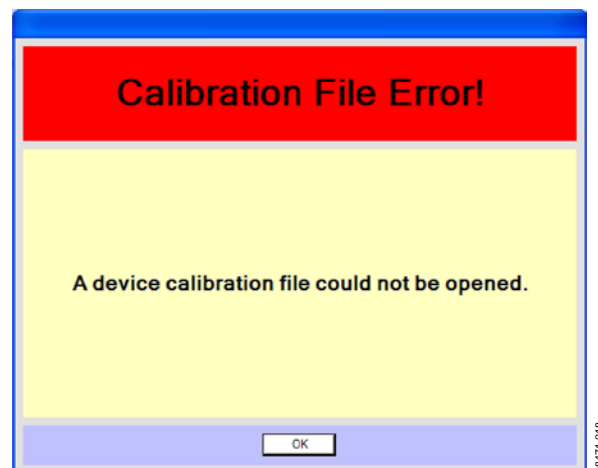

Figure 9.
2. When a **Calibration File Error!** message appears as shown in Figure 9, click **OK**.